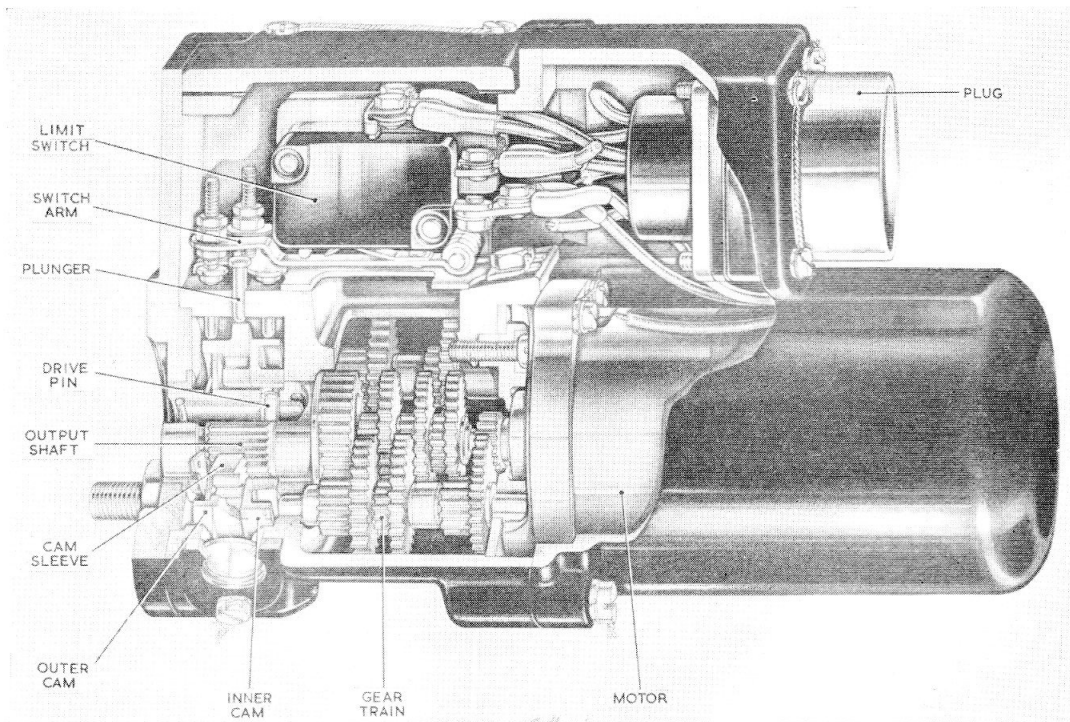

Fig. 2. Sectional view of actuator
2. A sectional view of the actuator is shown in fig. 2. The general construction is as described in the Appendix on Squirrel actuators, to which reference should be made for further information. The motor brushes on this actuator are of High Altitude